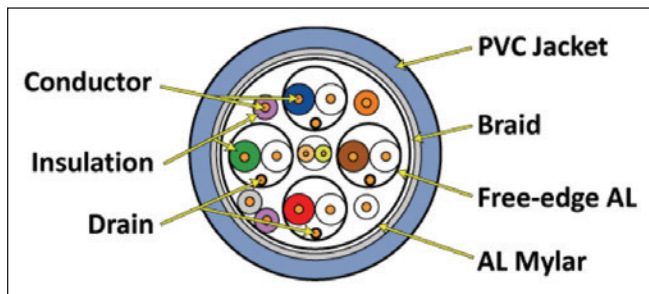

Figure 1: HDMI cable cross-section showing inner and outer shields. With HDMI, (FireWire) the inner and outer shields remain separated between shell and pins.
For the signal interface, there are three cable options, shielded, non-shielded and double shielded. The shielded cable options include cables for microphones, coaxial, USB-2/-3 or (S)STP connections. Non-shielded cable options include cables for loudspeakers, earphones, UTP, USB-1, USB-x for charging, etc. Double shielded cable options include cables such as HDMI and Firewire (see Figure 1), where the inner high-speed signal wires are screened by an inner shield and separated from an outer shield that is typically connected to the metal outer shell of the connector.
The discharge “source” impedance, voltage-over-current ratio, will be determined by the cable cross-sectional topology and whether the impedance is determined in the cable itself (that is, wire-to-wire(s) or wire(s)-to-screen) or from the whole cable towards its surroundings. The exterior cable to surroundings’ impedance is 100 to 300 Ω . The inner wire-to-wire or wire to screen impedance is 50 to 100 Ω . At worse, the characteristic impedance of the inner-to-outer shield transmission line (HDMI, FireWire, etc., see Figure 1) can be below 10 Ω .